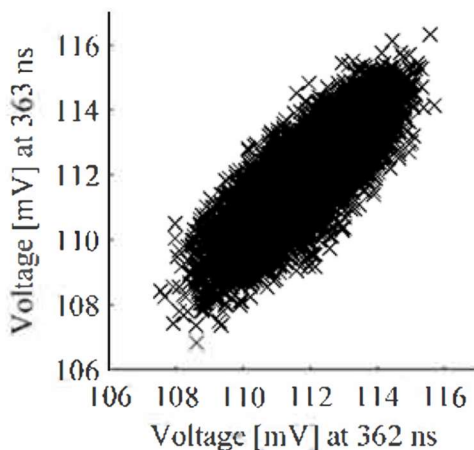

Figure 4.9. Scatter Plot: The power consumption at 362 ns is correlated to the power consumption at 363 ns.
- 4) (15 pts.) Consider Figures 4.9 and 4.10 from Chapter 4 of *Power Analysis Attacks: Revealing the Secrets of Smart Cards* by Mangard et al. The point of this question is qualitative, not quantitative.
- b. (10 pts.) Explain in your own words the difference between Figures 4.9 and 4.10 in terms of what the plots indicate about the relationship between the measurements at 362 ns as compared to 363 ns versus compared to 400 ns. In your answer, make sure to use the words “covariance” and “correlation” with their appropriate technical meanings clear from the context and usage.
The scatter plot shows two variables which may (or may not) be correlated. Figure 4.9 shows that the energy consumption (power) at 362 ns is in fact correlated to the energy consumption at 363 ns; in particular, as the measurement at 362 ns increases and approaches 116 mV, similarly the energy consumption at 363 ns also increases and the measurement approaches 116 mV as well.